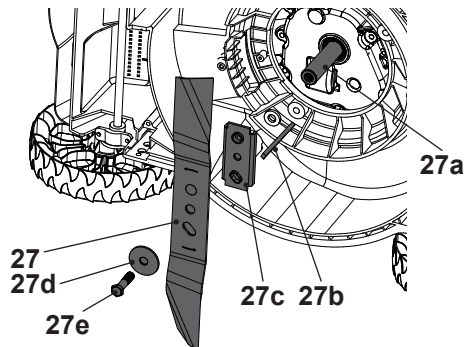

Fig. 20
**NOTE:** We strongly recommend jacking the product when performing inspection and work on the cutting device (27). Avoid tilting the product in order to prevent fuel and oil leakages.
1. Keep the underbody and cutting device (27) clean and free of debris. Remove clippings from the rear discharge chute (26).
2. Check all nuts and bolts periodically for tightness before operation. After prolonged use, especially in sandy soil conditions, the cutting device (27) will become worn and lose some of the original shape. The cutting efficiency will be reduced and the cutting device should be replaced.
3. Keep the cutting device (27) sharp to ensure a good cutting performance. Replace a worn or damaged cutting device with a new one of the same type or have it sharpened by a qualified specialist.
4. If jacking the product is not possible, tilt it to the right side so that the fuel tank cap (10) side is up. This helps to prevent fuel leakage and harder starting due to flooding of the carburetor (13).
5. Loosen the hex bolt (27e) anticlockwise using a suitable wrench and remove it together with cup washer (27d), cutting device (27), blade holder (27c) and pin (27b) from the spindle (27a) (Fig. 20).
6. Replace the cutting device (27) with a new one of the same type. Slide the pin (27b) into the slot on the spindle (27a), then refit the blade holder (27c). Check the status of the flange onto the blade holder (27c), then attach the cutting device (27) properly, and fix it with cup washer (27d) and hex bolt (27e). Tighten the hex bolt clockwise with 40 Nm min, 50 Nm max. to ensure safe operation of your product (Fig. 20).
**DANGER!** If the cutting means (27) are not torqued properly, they could become loose and be thrown from the product and seriously hurt or kill the operator or bystanders.
**NOTE:** Replace this cutting device (27) after 50 hours mowing or 2 years whichever is sooner regardless of condition. If the cutting device is cracked or damaged, you must immediately replace it with a new one.
- Lubricate the cutting device (27) after each use to prolong the life span of both the cutting device and product. Apply lubrication oil/grease along the edges of the cutting means (27).